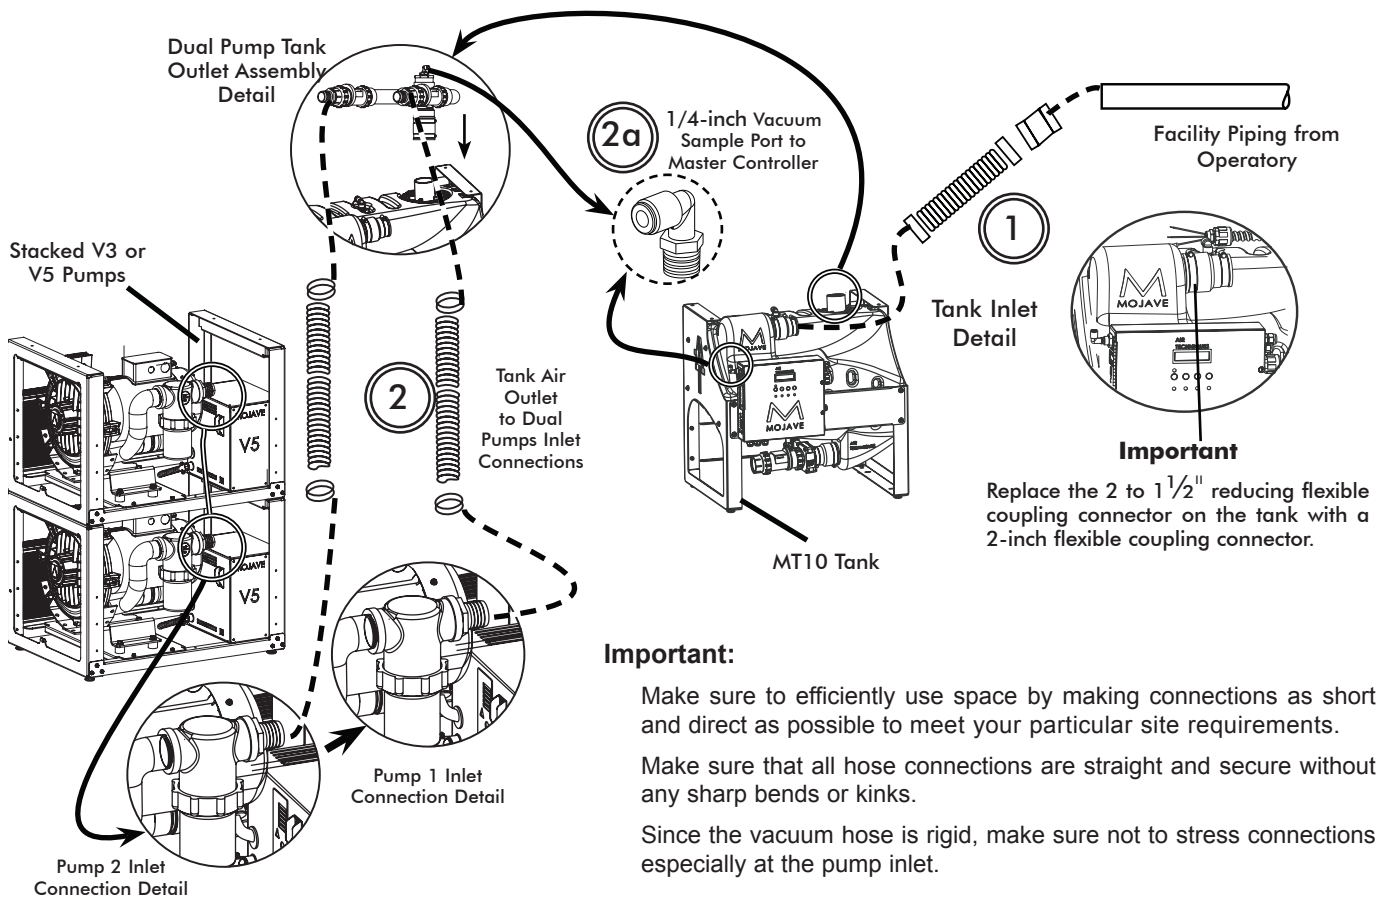

Figure 10. MOJAVE Dual Pump and Tank Connection Diagram, Sheet 1
- c. Install a length of 1/4 inch OD Urethane Tubing (P/N 51453) between the vacuum sample port and the vacuum inlet port of the Master Controller. See Figure 10, item (2a.)
- Heat Exhaust Vent Connection.** Refer to Figure 10, sheet 2, item (3) and connect the vent hose (P/N 56057) between the pump heat exchanger and the facility vent line. Secure with two hose clamps (P/N 89324).